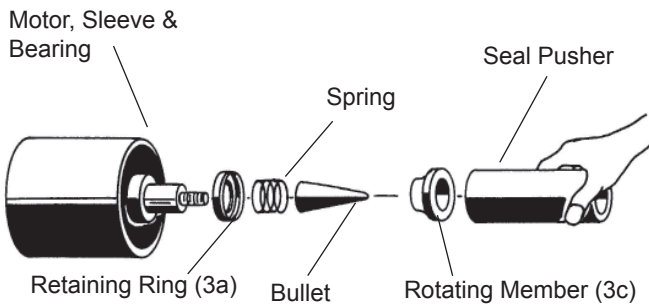

FIGURE 9
Place spring retainer and spring onto motor shaft. Lightly oil shaft (**DO NOT use grease**) and inner surface of bellows of rotating member. With finished end away from motor, slide rotating member over bullet and onto shaft until it engages spring (see Fig. 9). Carefully assemble shaft to seal plate as per section F-3.3. It is extremely important to keep seal faces clean during assembly. Dirt particles lodged between these faces will cause the seal to leak. When seal plate is assembled to motor, it will properly align and seat the seal (3) and bearing (4). Follow complete reassembly instructions as per section F-3.3.